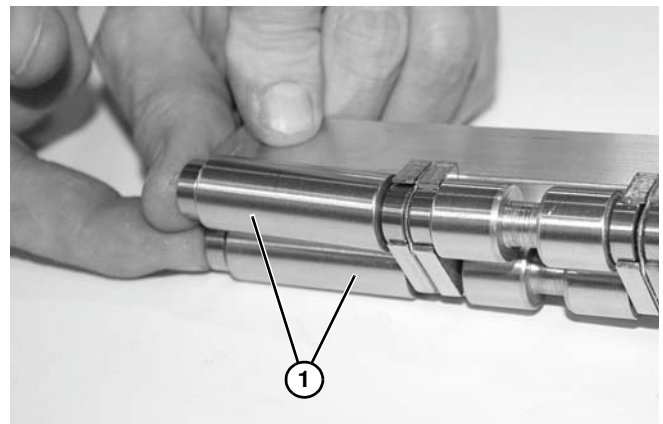

Figure 67
7. Remove spindles (**Figure 67, item 1**).